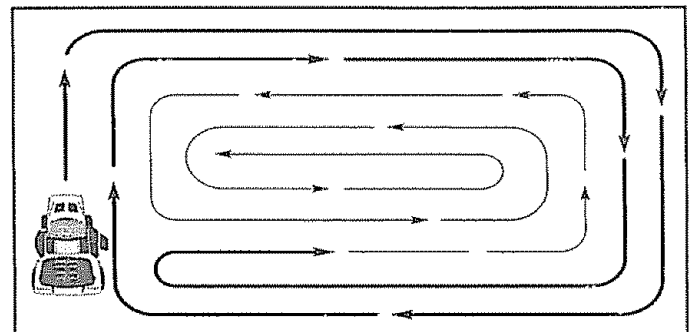

FIG. 10
- When mowing large areas, start by turning to the right so that clippings will discharge away from shrubs, fences, driveways, etc. After one or two rounds, mow in the opposite direction making left hand turns until finished (See Fig. 10)